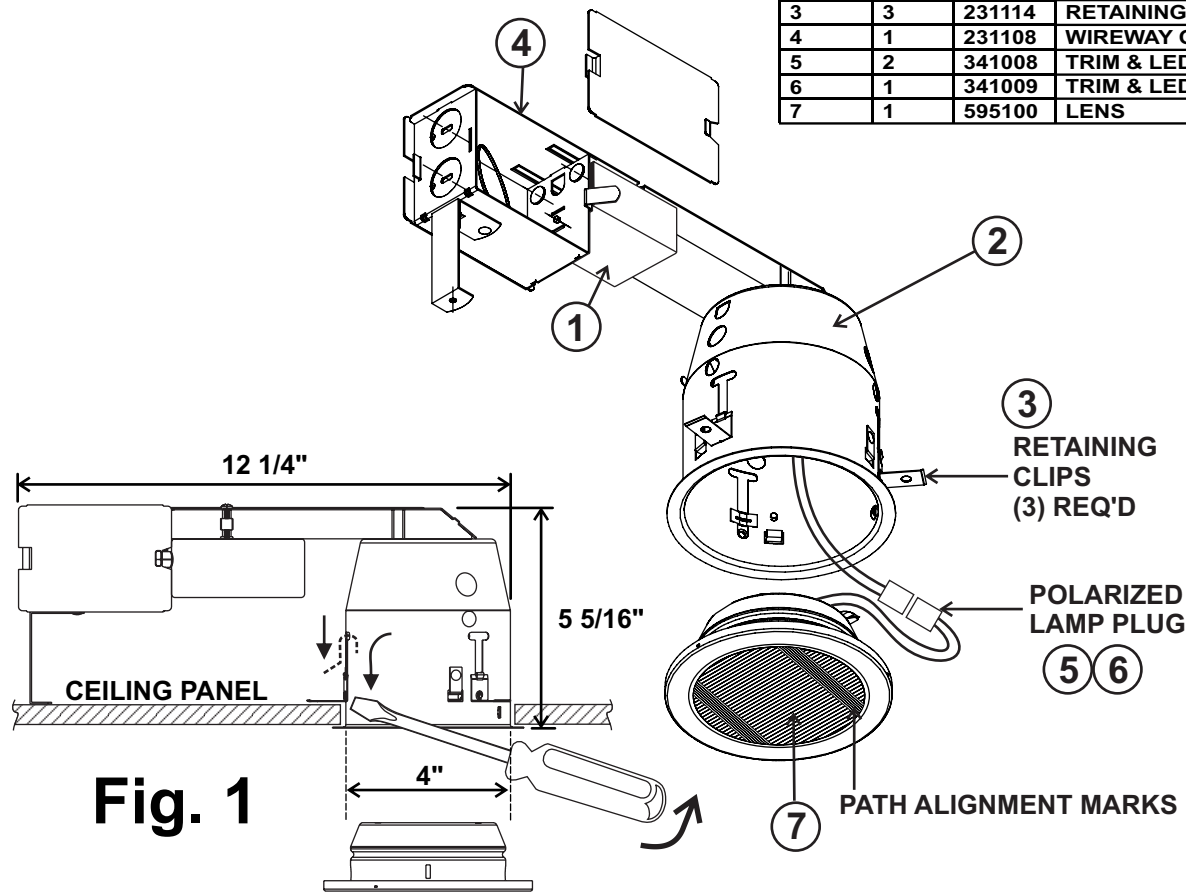

Fig. 1
5. See Fig. 1. From inside housing, insert the three retaining clips into slots in housing. Use flat blade screwdriver to slide clips down until in contact with top of ceiling panel.